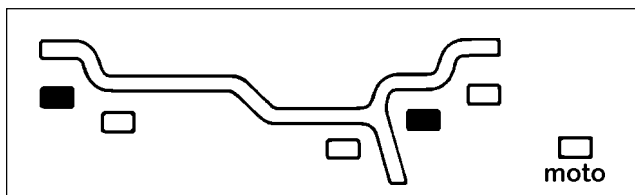

Fig.50
**D. ALU3.** The wheel weights position is as indicated in Fig.50. In this case use one tape weight on the outside and a clip-on weight on the inner edge.